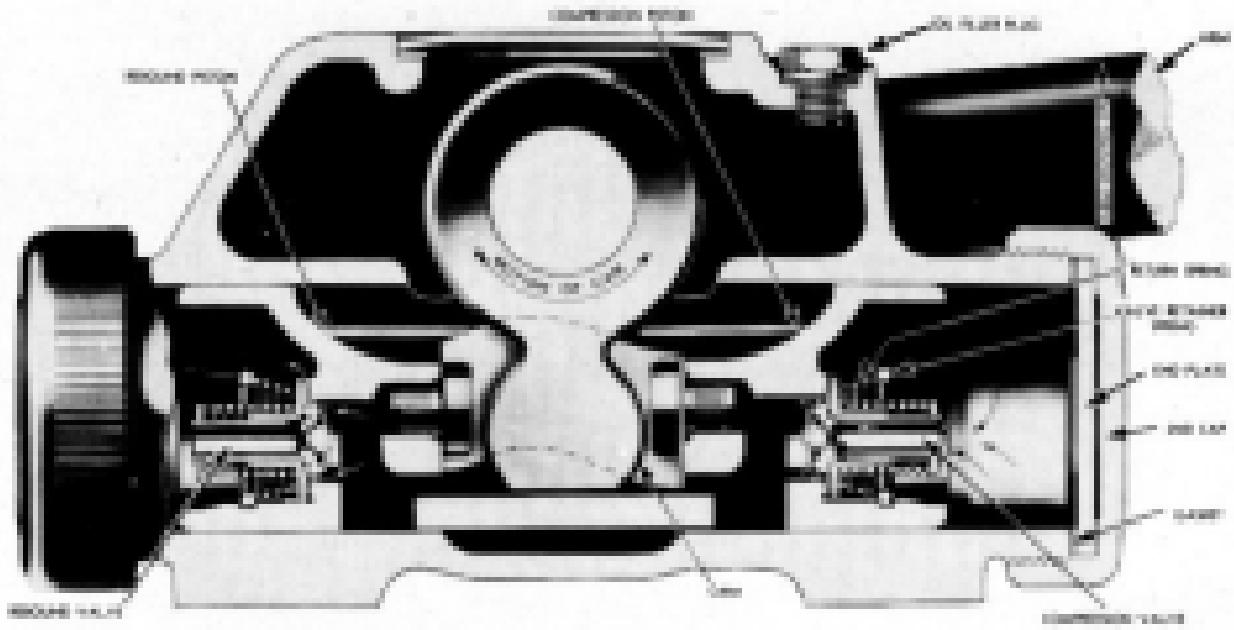

Fig. 98. Front Shock Absorber Arm Moving Up—On Compression
1. Disconnect link from stabilizer bar by removing nuts from top of link, pull out link from bottom of link. (See Fig. 98.)
- (b) When attaching the link, place one rubber and one steel retainer at the top and bottom of both the control arm support and stabilizer bar, as shown in Fig. 98, and draw the nut down to the limit of the thread. (Install second nut to lock link in place.)
The shock absorber unit comprised one rebound and one compression piston—one fixed with a spring loaded compression valve, the other with a spring loaded rebound valve—with suitable cam motion connected through a shaft to an outside arm for operating the pistons. The rebound and compression valves operate as main control valves and also as inlet valves for the return of fluid to each cylinder. (Figs. 98 & 99.)